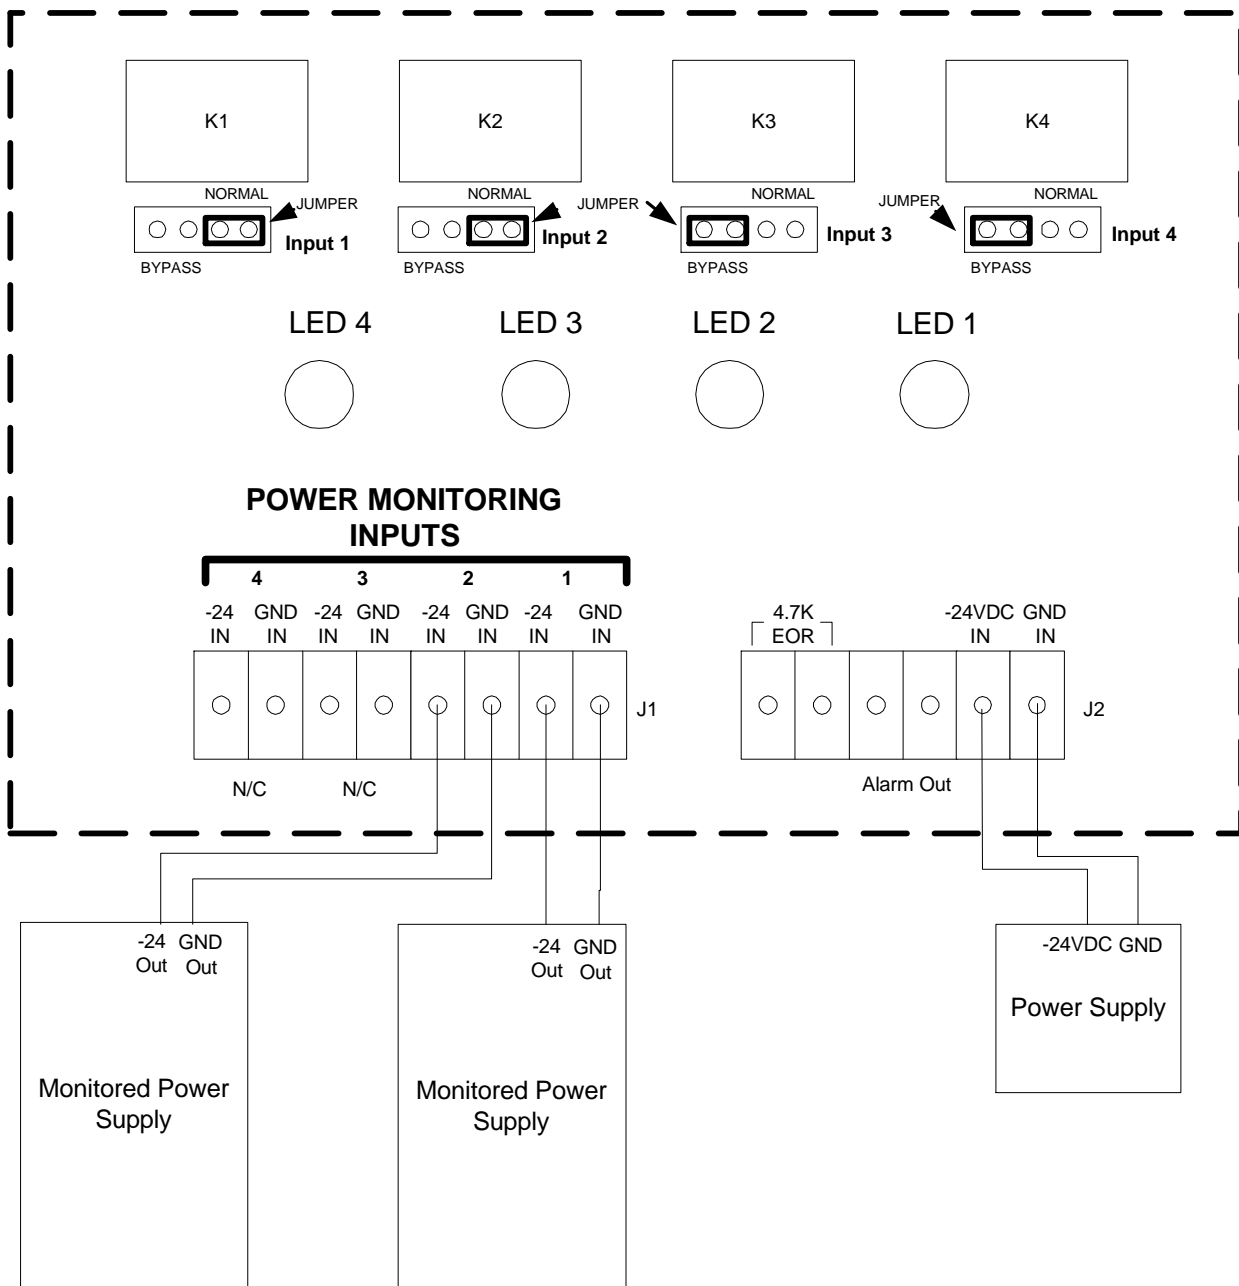

Figure 2 Typical Connections
WIRING INSTRUCTIONS (see Figure 2)
* Figure 2 is shown with circuits 1 and 2 active. Circuits 3 and 4 are bypassed with included shorting bridge.